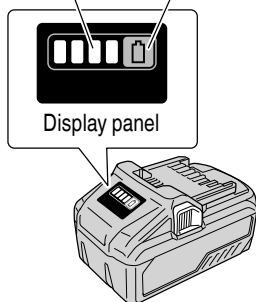

Fig. 10
- You can check the battery's remaining capacity by pressing the remaining battery indicator switch to light the indicator lamp. (Fig. 10, Table 5)